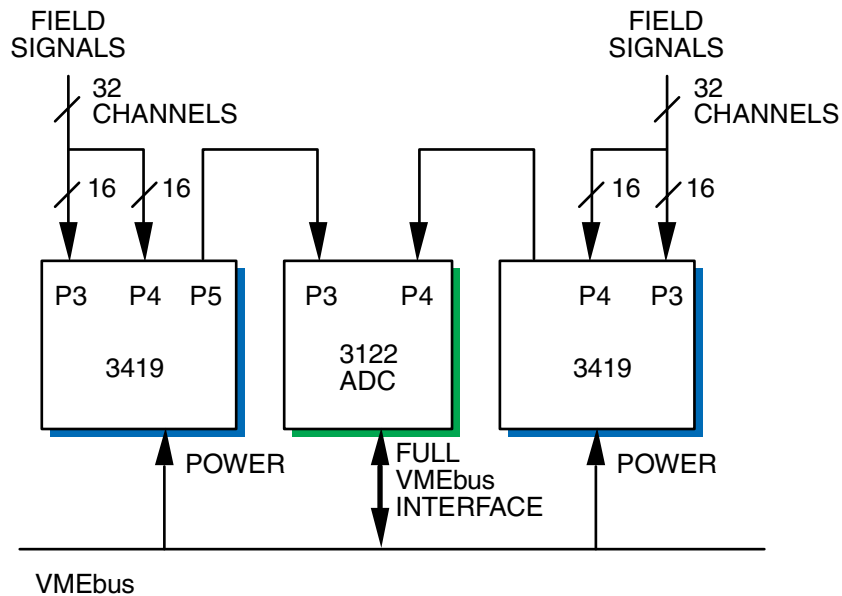

Figure 4. Typical System Implementation Using VMIVME-3122 with VMIVME-3419
**VMIVME-3419:** 32-Channel Signal Conditioning Board with Programmable Gain and Built-in-Test (BIT). The VMIVME-3419 accepts full-scale input ranges from  $\pm 5\text{mV}$  to  $\pm 10\text{V}$ , depending on the gain selected for the A/D board. Low pass filters are available with cutoff frequencies of 4, 40, 400, or 4 kHz. Optional current loop termination input resistors are available. See Figure 4 for a typical system implementation of the VMIVME-3419.